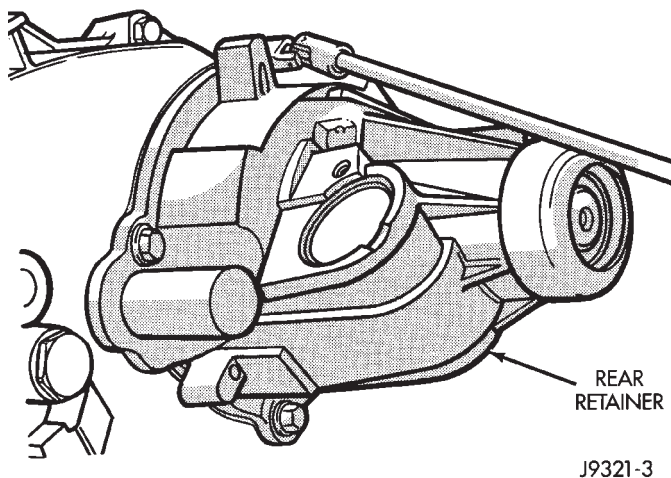

Fig. 25 Rear Retainer Bolt Removal
(4) Remove rear retainer bolts (Fig. 25).